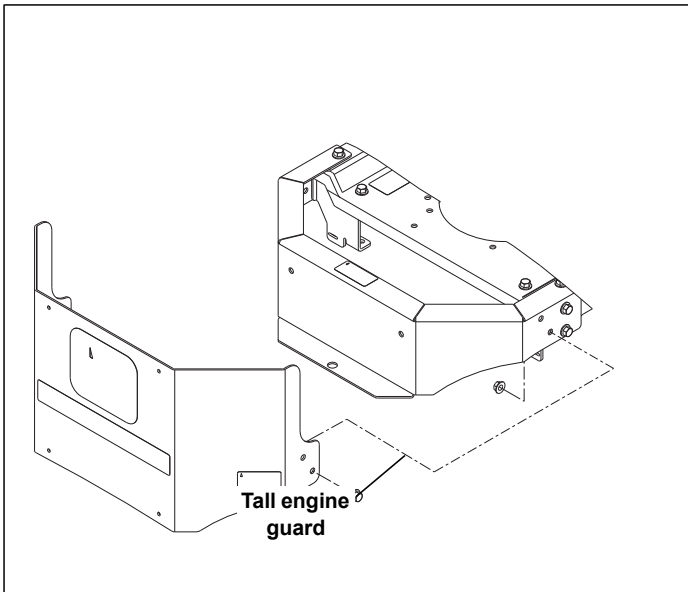

Figure 3-3
- NOTE:** Some mower models have a taller rear engine guard. If a catcher is being attached to one of these models, it will be necessary to remove the engine guard. Figure 3-3